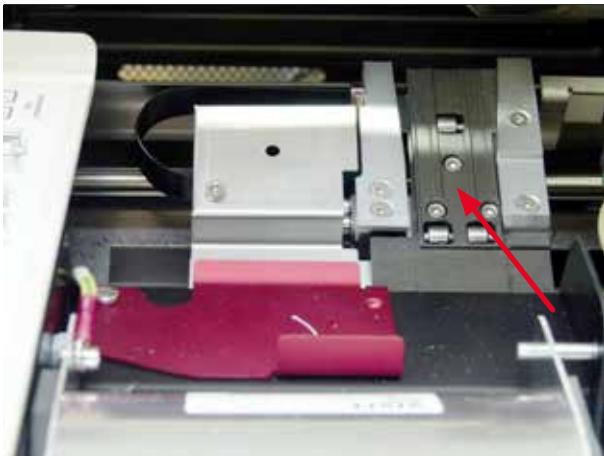

Abb. 46
- Transportstation (→ "Abb. 46")